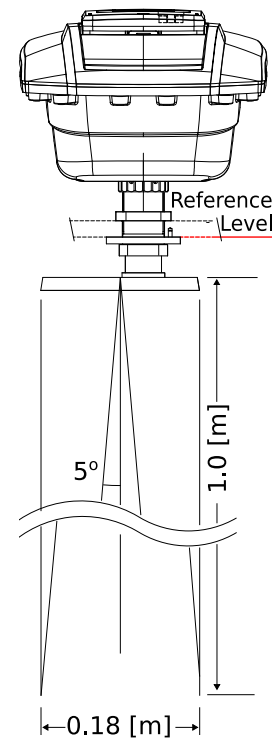

Figure 2.1: The 5° [deg] half top angle of the F08 antenna beam and the reference level for mounting height measurement.
- It is advised to choose a mounting position such that the WaveGuide radar beam is free of large reflecting obstacles (the beam of the F08 antenna has a 5° [deg] half top angle as shown in Fig. 2.1). The minimum horizontal distance between the radar and any obstacle in the beam's path should be at least 10% of the vertical distance between the radar and the obstacle. This does not only include horizontal objects in the beam's path but also vertical structures.
- The reference level for the mounting height of the radar is shown in Fig. 2.1.